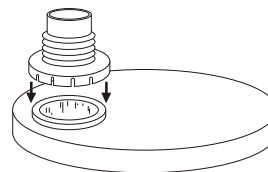

Figure 4
4. Remove the top ring from the bottom piece. Snap bottom piece in place over the crimped flex spout ring on the lid. (See Figure 4)